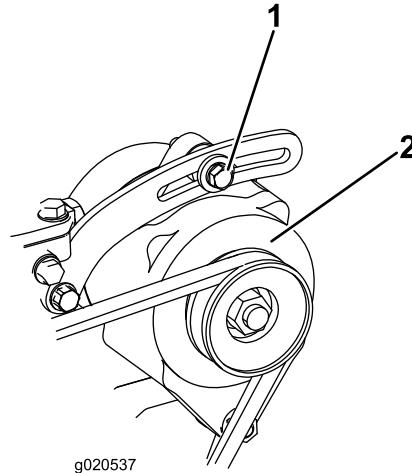

Figure 90
1. If the deflection is not 10 mm (3/8 inch), loosen the alternator mounting bolts (Figure 90).